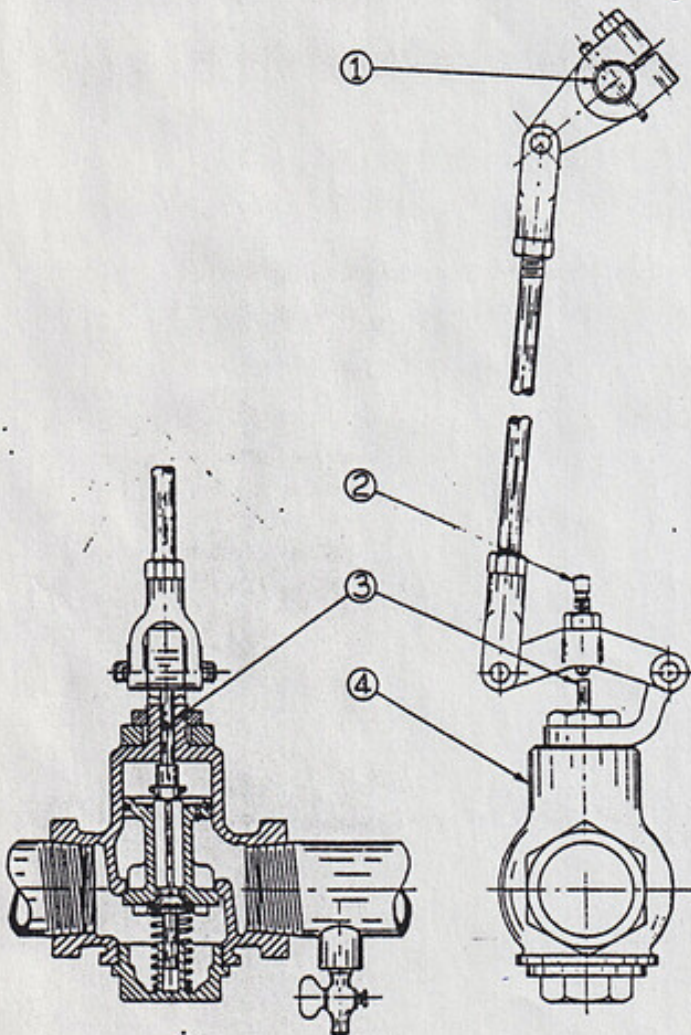

FIG. R-5
The master starting air manifold valve used on the smaller bore engines is illustrated in Fig. R-5. Valve (4) is essentially the same as that used on the 13" bore engines and described in Paragraph 5. It is mechanically operated however, by linkage connecting to the valve rocker shaft (1), this linkage replacing the pneumatic piston construction used on the 13" bore engines. When the rocker shaft shifts to the "START" position, adjusting screw (?) contacts pin (3) and opens the valve. Screw (?) should be set so that the valve is opened about $\frac{1}{2}$ " when the rocker shaft is in the "START" position.